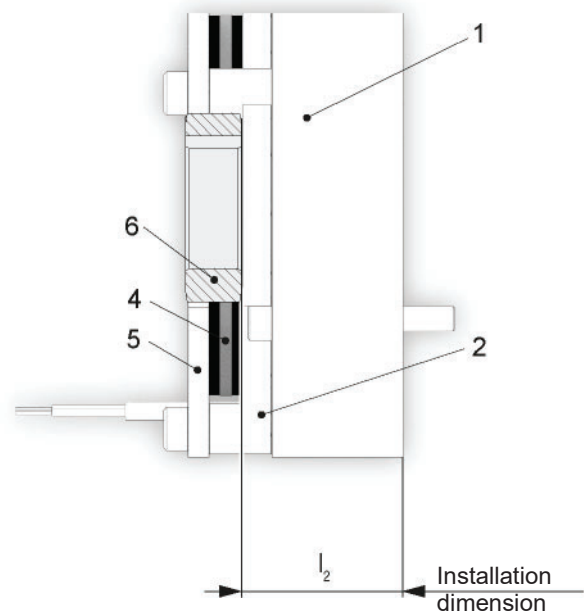

Fig. 3
- ☐ Check installation dimension l_2 as per Chapter 5.2.5 and Figure 3.
4. Mount the hub (6) onto the shaft with inserted key, bring it into the correct position as per installation dimension l_2 in Chapter 5.2.5 (Figure 3) and secure it axially.